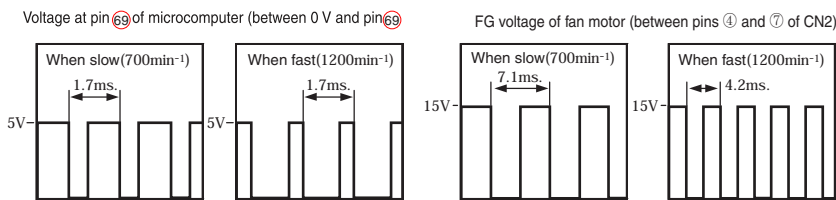

Fig. 3-2
- The VS receives a command voltage from the microcomputer. The VS terminal undergoes an analog voltage that matches the Lo level time ratio of the pulse signal from pin ④5 of the microcomputer. (See Fig. 3-2.)